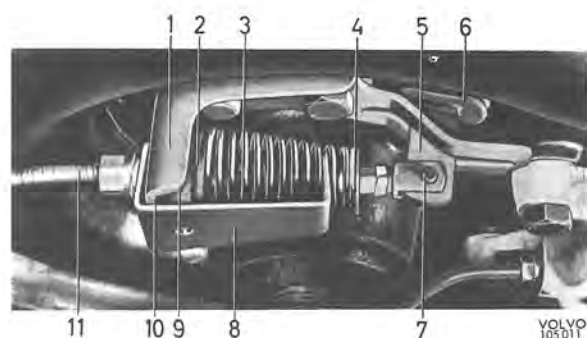

Fig. 5-83. Installing spring tool
5. Place holder SVO 2742 so that the return spring is held in position according to Fig. 5-83. Bend up the lock and remove the lock pin so that the cable releases from the lever.
- Fit on new rubber cable guides for the cable suspension. Place the cable in position in the rear attachment and tighten the nut. Fit the washers and return spring. Compress the spring with the help of the holder tool, see Fig. 5-83. Oil the lock pin and fit it together with the cable on the lever. Fit the attachment and rubber cable guide on the frame member.